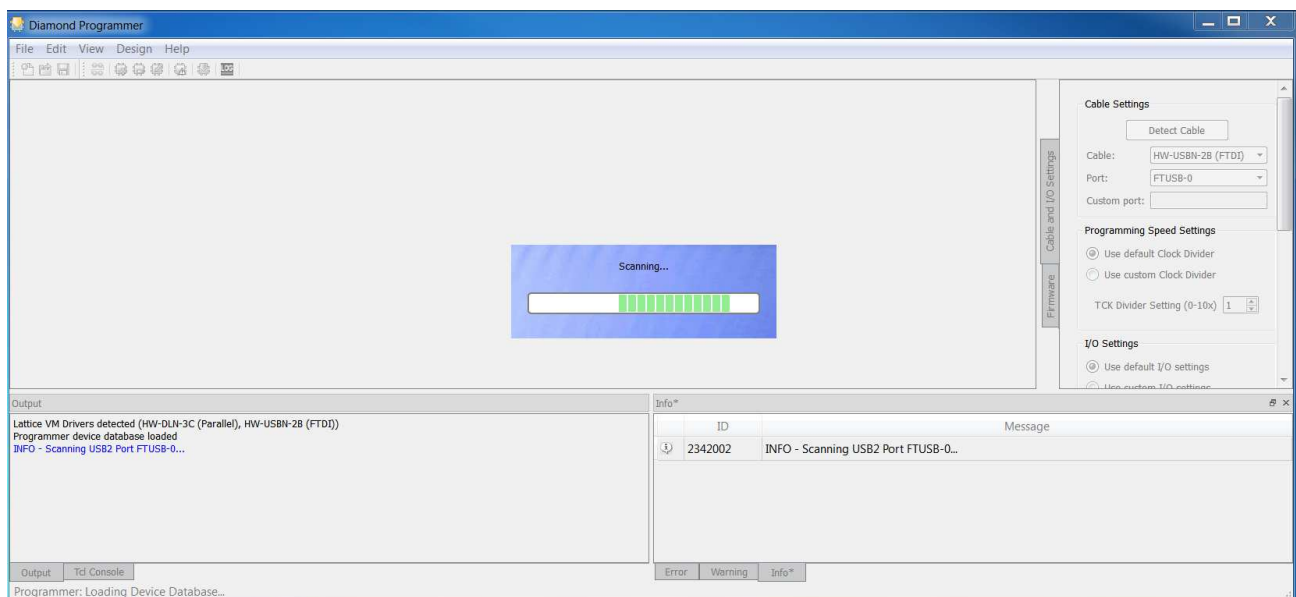

Figure 5.2. Scanning
2. Click **OK**. The Diamond Programmer automatically starts scanning. The scanning page appears as shown in Figure 5.2.